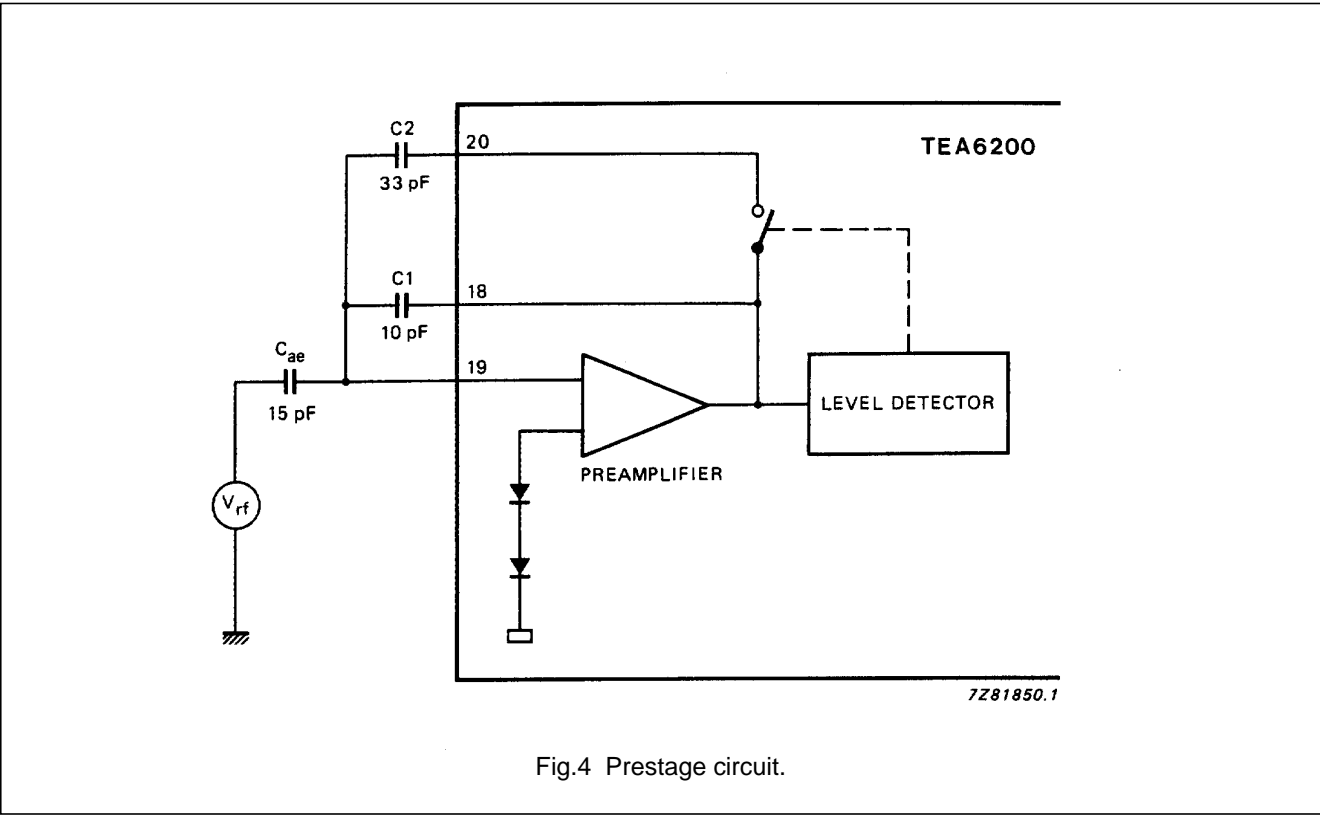

Fig.4 Prestage circuit.
1. The prestage is connected to the aerial by a 6 MHz low-pass filter that decouples unwanted aerial cable resonance frequencies. The large dynamic range of the prestage is achieved by use of a transimpedance amplifier with a feedback loop consisting of an equivalent aerial capacitance and a feedback capacitor. When large RF signals are received the feedback capacitance in the loop is increased and the gain subsequently reduced, (see Fig.4).